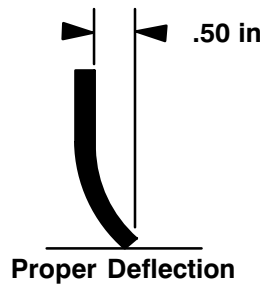

Fig. 14
11. Attach the squeegee assembly to the machine. Lower the squeegee to floor and push the machine slightly forward. Check the blade for proper deflection. Readjust caster height if necessary (Figure 14).